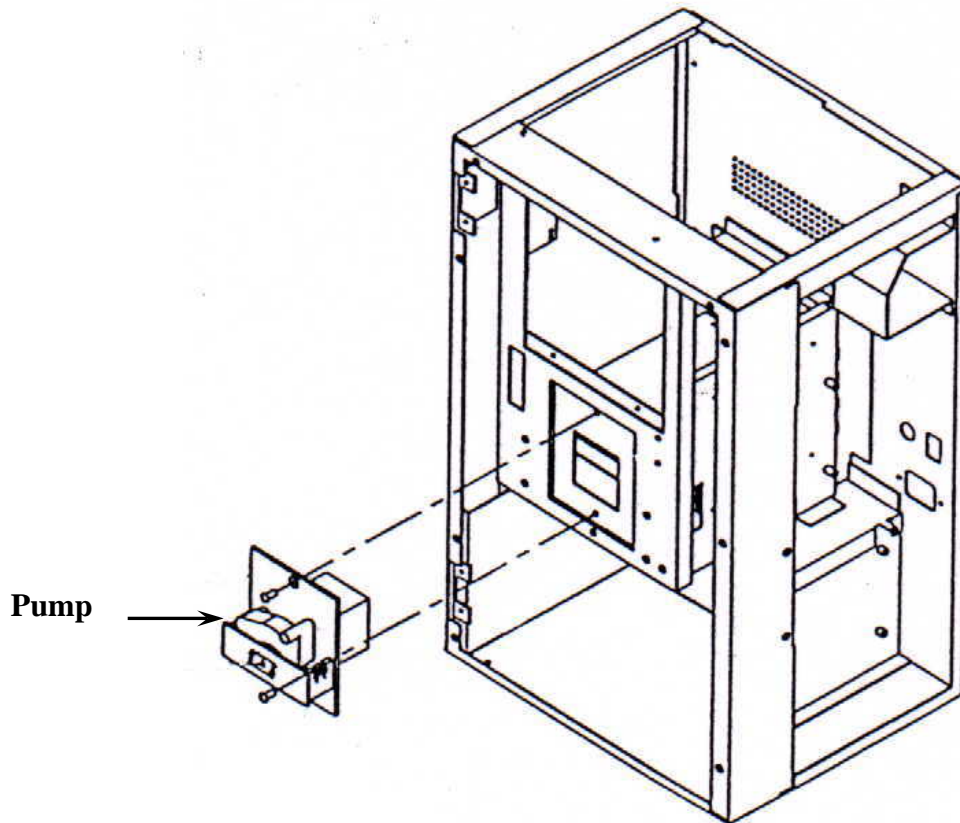

Figure 3-9. Pump Module Replacement.
2. Remove the Pump Module (Figure 3-9).
1. Install the Pump (Figure 3-9).
6. Remove the two screws on the pump (Figure 3-9).
2. Fasten the two screws on the pump (Figure 3-9).